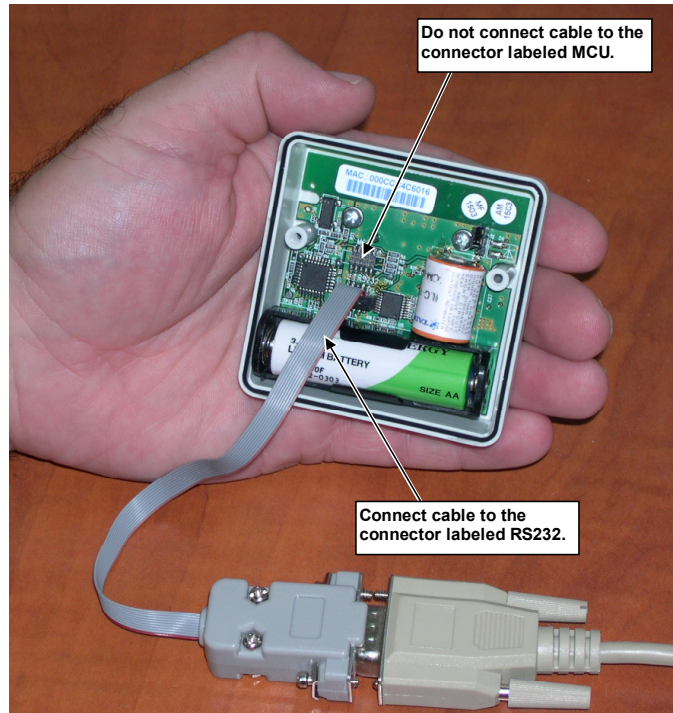

Figure 4: Connecting the RS-232 Cable to the Tag
6. Connect the other end of the RS-232 cable to the serial port socket inside the Tag (see Figure 4: Connecting the RS-232 Cable to the Tag – make sure that the red wire of the flat cable is on your right).